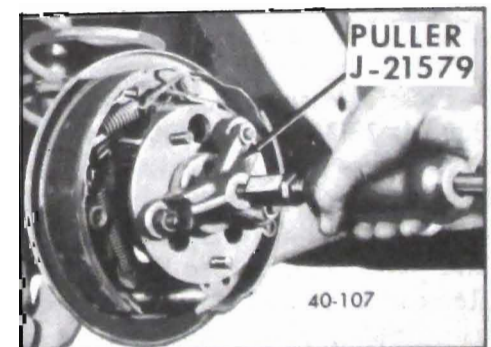

Figure 40-89 - Removing Rear Axle Shaft
4. Pull out axle shaft assemblies using Puller J- 21579 with a slide hammer. See Figure 40-89.